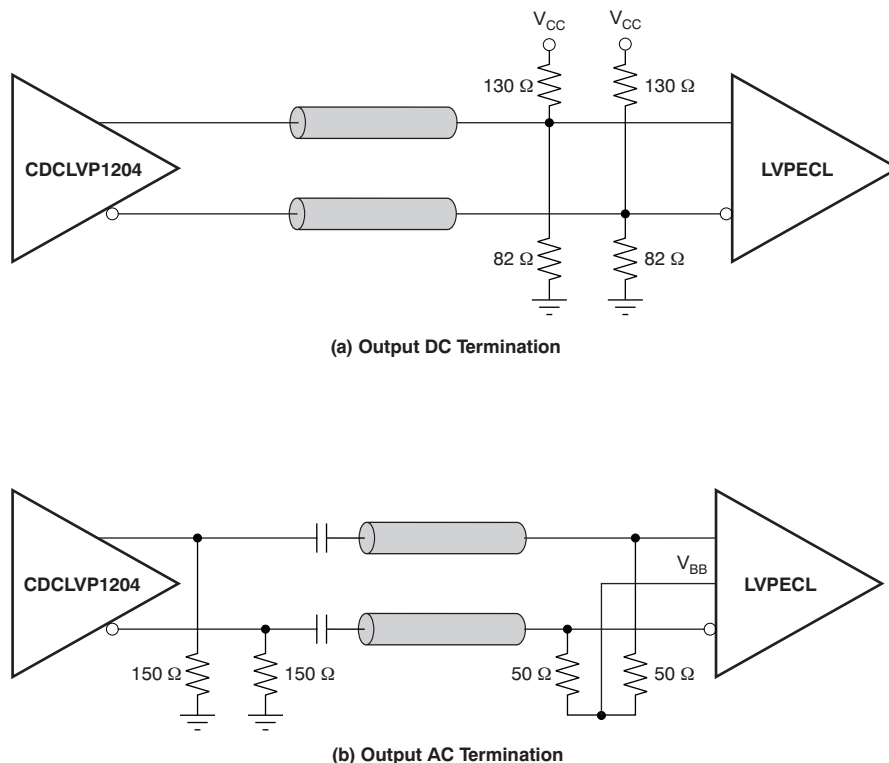

Figure 13. LVPECL Output DC and AC Termination for  $V = 3.3 V_{CC}$
The CDCLVP1204 is an open emitter for LVPECL outputs. Therefore, proper biasing and termination are required to ensure correct operation of the device and to minimize signal integrity. The proper termination for LVPECL outputs is a  $50\ \Omega$  to  $(V_{CC} - 2)$  V, but this DC voltage is not readily available on PCB. Therefore, a Thevenin equivalent circuit is worked out for the LVPECL termination in both direct-coupled (DC) and AC-coupled configurations. These configurations are shown in Figure 12 (a and b) for  $V_{CC} = 2.5$  V and Figure 13 (a and b) for  $V_{CC} = 3.3$  V, respectively. It is recommended to place all resistive components close to either the driver end or the receiver end. If the supply voltage for the driver and receiver is different, AC coupling is required.